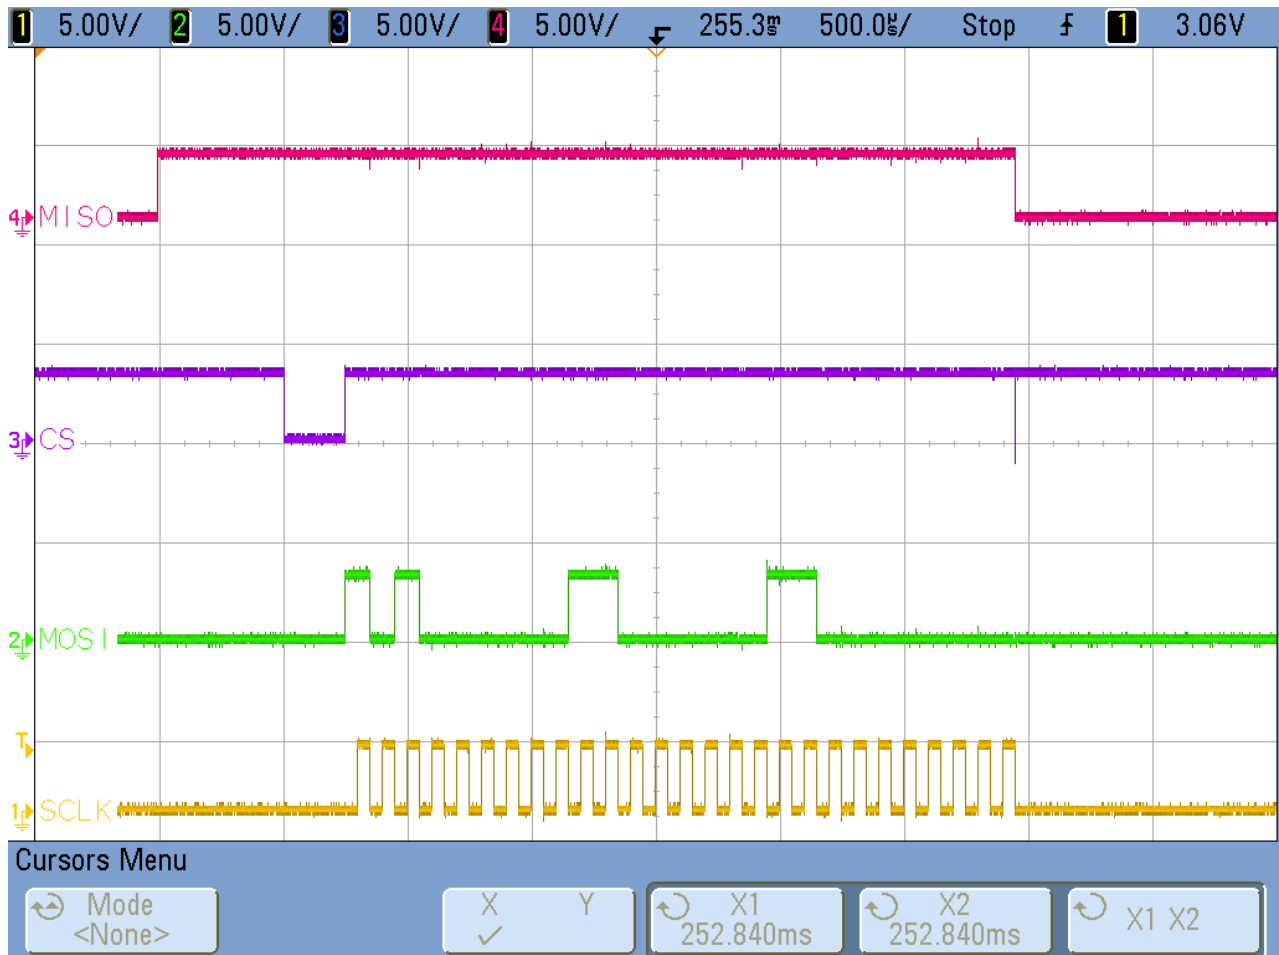

Figure 4 Write 3 to Address 3
The Figure 4 screen capture shows a write command (101) applied to MOSI, followed by a 3 written to address 3.